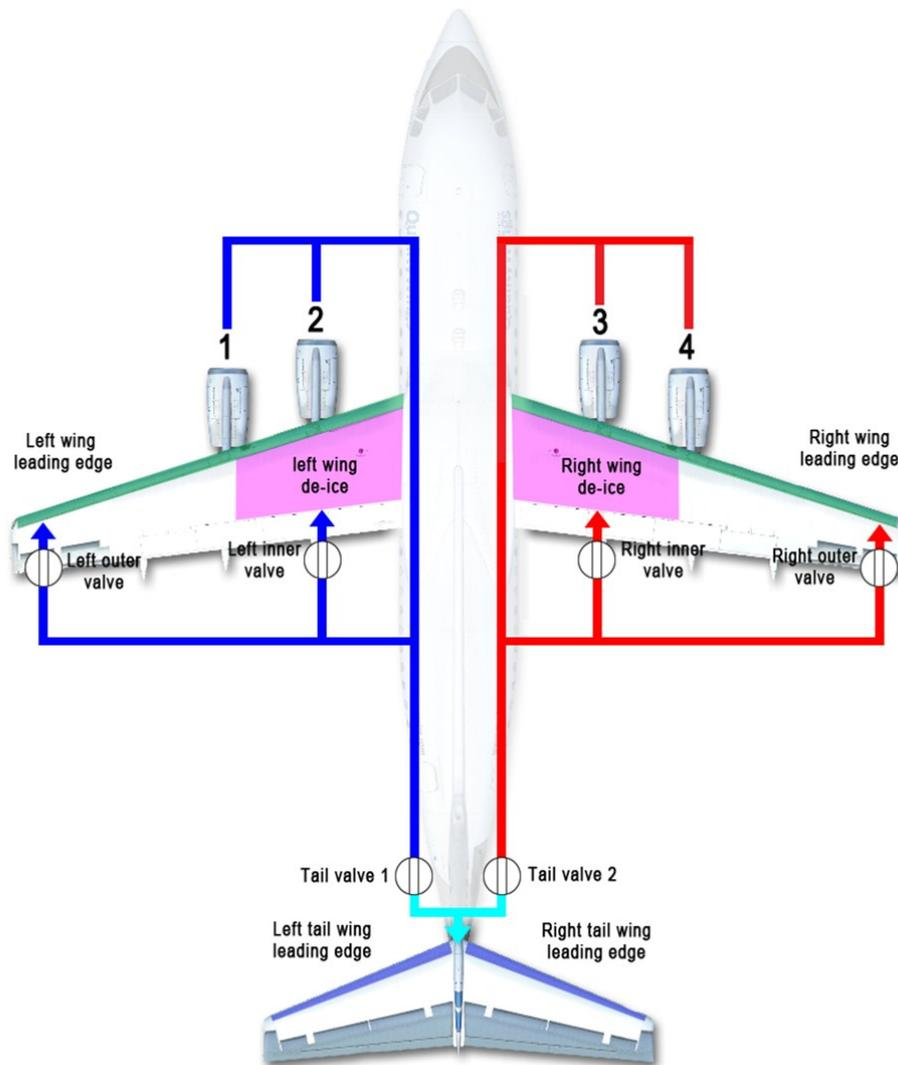

Figure 34: Wing and tail anti-ice and de-ice
Wing and tail anti-ice/de-ice operates using hot air leached from the engines. The hot air is guided to key points on the wing and tail-plane leading edges. Valves, controlled by switches on the overhead panel control the access of the hot air to the wing and tail-plane leading edges. See Figure 34.
- The inner wing de-ice switch controls a left inner and right inner valves that allow the hot air supply access to the magenta areas in Figure 34
- The outer wing anti-ice switch controls the left outer and right outer valves that allow the hot air supply access to the green areas in Figure 34
- The tail anti-ice switch controls two valves in the tail (valve 1 and valve 2) that allow the hot air supply access the blue areas in Figure 34